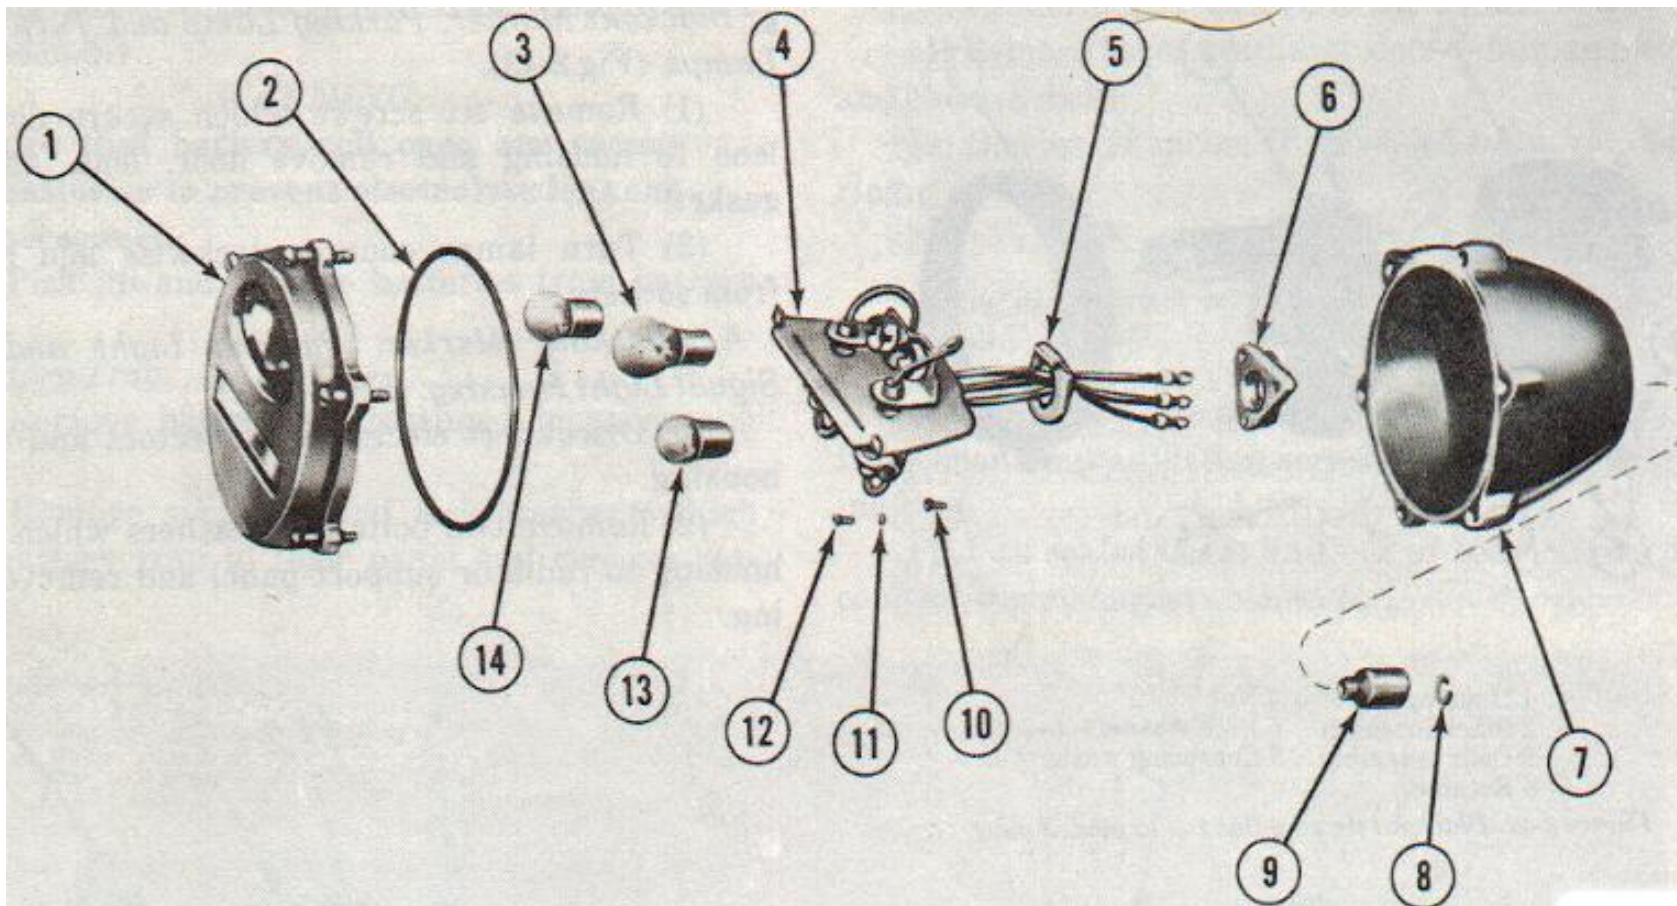
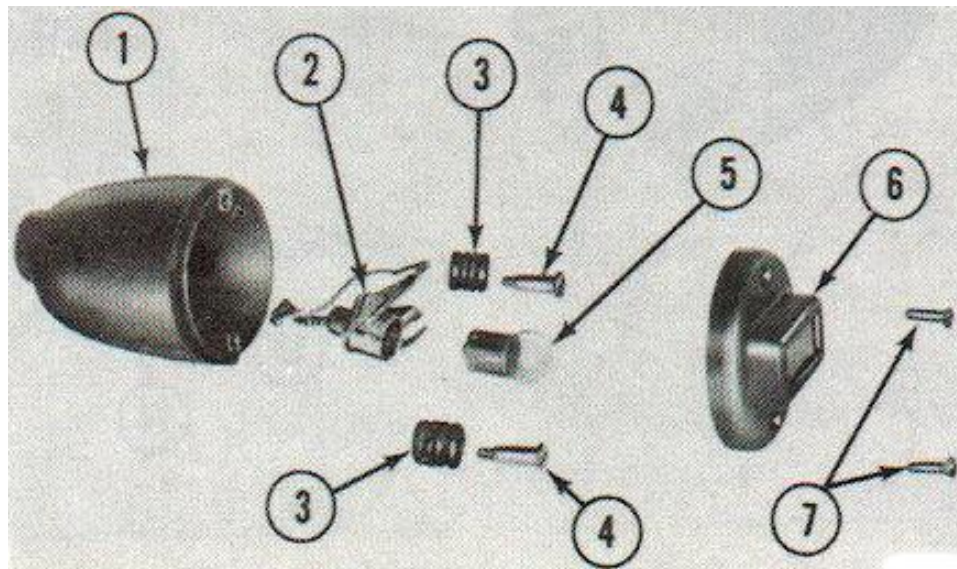

Figure 2-44 Tail and stop lamp, directional signal lamp, parking lamp, blackout marker.
Figure 2-45. Blackout stop light - exploded view.
i. Tail and Stop Lamp, Directional Signal Lamp, Parking Lamp, Blackout Marker. (Fig 2-44)
(1) Remove six screws which secure door and lens to housing assembly and remove door and lens.
(2) Turn lamps counter-clockwise and remove
j. Tail and Stoplight, Directional Signal Light, Parking Light, Blackout Marker Housing. (fig 2-44)
(1) Disconnect electrical connectors located between bumperette and push connectors through grommet.
(2) Remove two nuts and lock washers which secure housing to bracket and remove housing.
k. Blackout Stop Lamp. (Fig 2-45)
(1) Remove two screws securing light door.
(2) Remove door, lens and sealing gasket.
(3) Press lamp in and turn lamp from socket.
l. Blackout Stop Lamp Housing. (Fig 2-45)
(1) Remove nut and lock washer securing light assembly to support bracket.
(2) Disconnect electrical connector and remove light housing assembly.